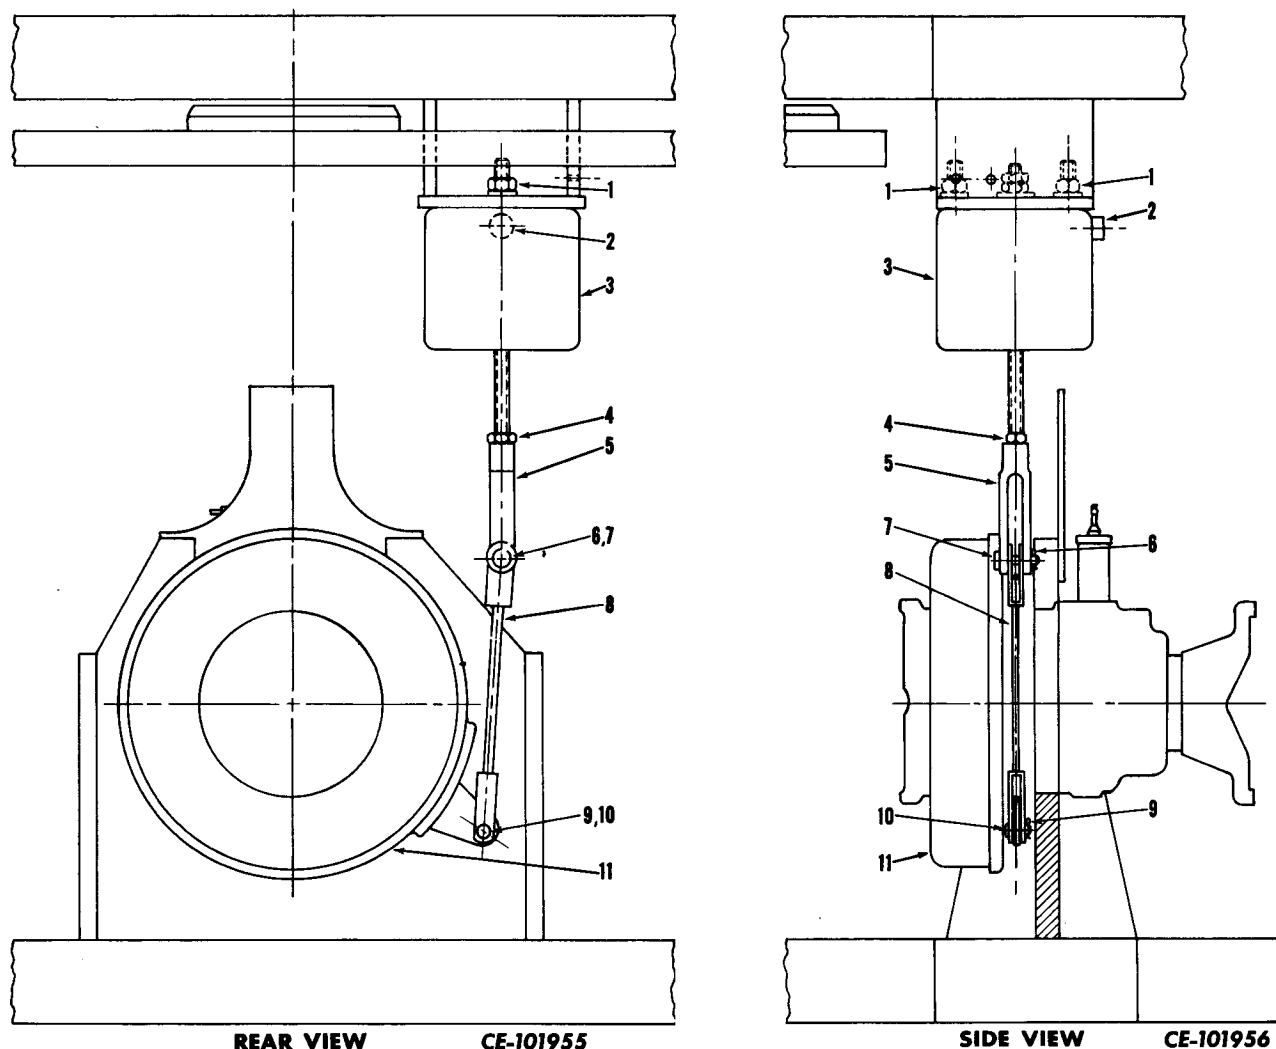

Figure 9-9B
Be sure air pressure in reservoir is at normal operating level, then position parking brake control knob in "RELEASE" position. Remove cotter pin (6, Fig. 9-9B) and yoke pin (7) from yoke (5).
Position parking brake control knob in the "APPLY" position. Remove air line from air cylinder (3, Fig. 9-9B). Remove nuts and lock washers (1) that secure air cylinder to its mounting bracket and remove cylinder.
Position air cylinder (3, Fig. 9-9B) on its mounting bracket and secure with lock washers and nuts (1). Tighten nut securely.
Connect air line to cylinder (3, Fig. 9-9B) at its port (2). Be sure line is not kinked when tightening connection at cylinder. Position parking brake control knob in the "RELEASE" position.
With air cylinder in the released position loosen jam nut (4, Fig. 9-9B) and holding cable assembly (8) taut, adjust yoke (5) up or down, as required, until pin (7) will pass with a very slight drag through yoke (5) and cable end yoke. Do not over tighten. Install cotter pin (6). Hold yoke with a suitable wrench and tighten jam nut (4).
Loosen jam nut (4, Fig. 9-9B) and rotate yoke (5) until all slack has been removed from cable assembly (8) and cable is taut. Do not over adjust. Hold yoke (5) with a suitable wrench and tighten jam nut (4).